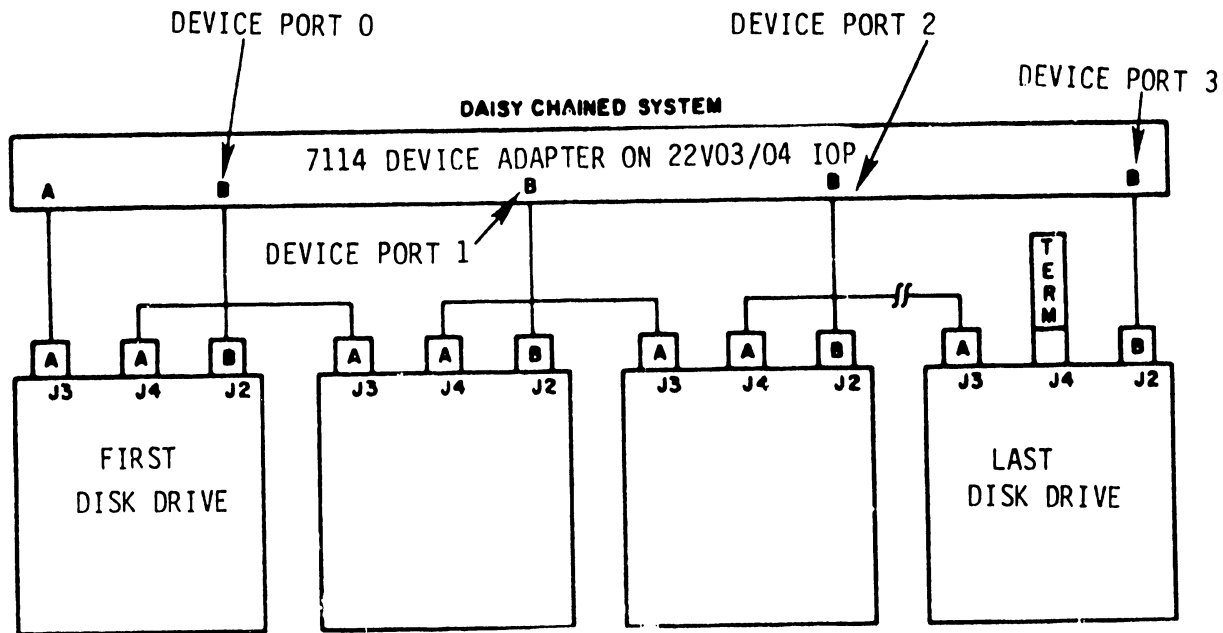

FIGURE 4-31 DAISY CHAIN CONFIGURATION
- C. If more than one drive is to be attached to the system, use 10 ft. "A" cables (PN 220-3031) and 24 ft. "B" cables (PN 220-3033-4) to daisy chain the disk drives in the configuration shown in Figure 4-31.